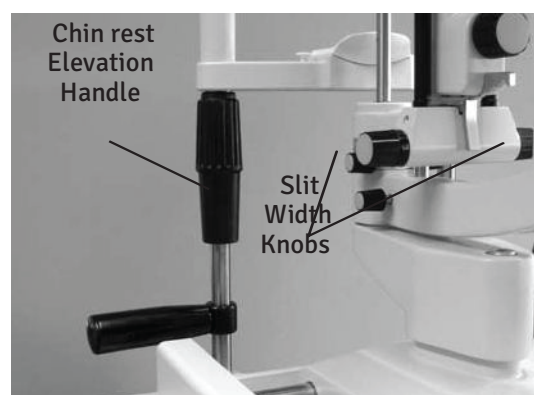

Figure IN-2 Adjust Patient Height
4. Using the Slit Width Knobs, adjust the projected slit so that the thinnest slit is shown on the Focusing Rod. Refer to figure IN-2.
6. To position a patient, adjust the chin rest height by turning the Chin rest Elevation Handle on the post of the Chin Rest Assembly until the patient's canthus is in line with the canthus mark on the chin rest post. Refer to figure IN-2 & IN-3.
11. The slit width can be adjusted by rotating the Slit width Knobs. Refer to figure IN-2.